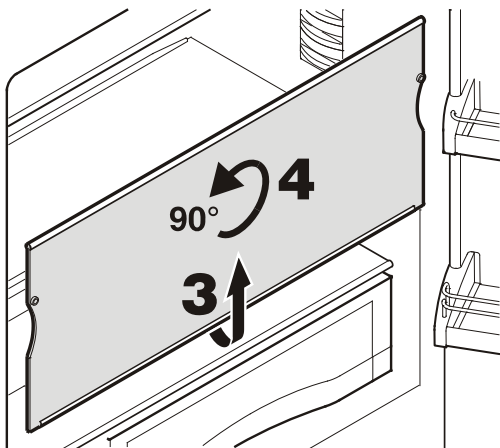

Figure 11
Removing the shelves - *Figure 11*
- Remove glass shelves as shown in **Figure 11**.